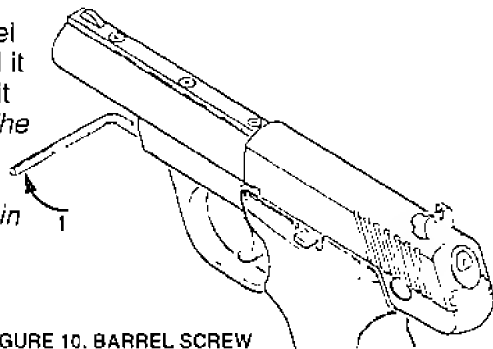

FIGURE 10. BARREL SCREW
3. Using 1/8 in. Allen wrench, turn barrel securing screw counter-clockwise until it is clear of the barrel lug; then remove it completely . . . see Figures 10 & 11. *The barrel securing screw is located in the front of the receiver. It is therefore important to keep the muzzle pointing in a safe direction away from you as you loosen the screw.*